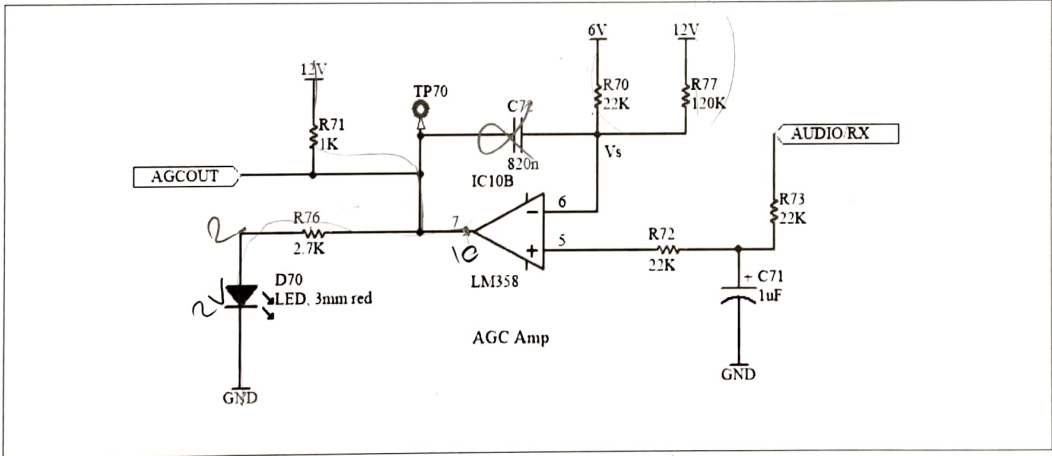
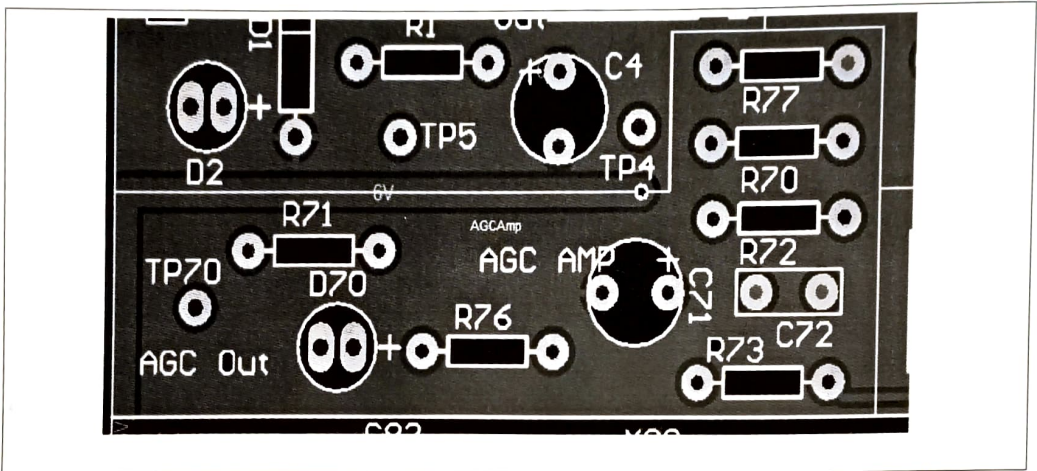

Figure 4: Automatic gain control circuit.
Figure 6: Correct PCB annotations for AGC circuit.
2. The automatic gain control (AGC) circuit of TRC-11 is given in Fig. 4.
1. Now, we are ready to incorporate the automatic gain control (AGC) circuitry to prevent saturation of the IF amplifiers. Refer to Fig. 4. Note that the PCB annotations of C72 and R72 are inadvertently swapped. Correct PCB annotations are shown in Fig. 6.
2. The automatic gain control (AGC) circuit of TRC-11 is given in Fig. 4. Place R70, R71, R72 (in its corrected place), R73, R76, R77, and D71. Watch the direction of the PIN diode. Solder them. Cut the leads on the back side.